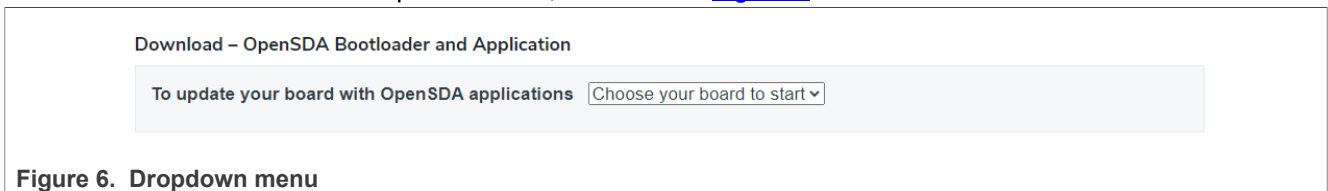

Figure 6. Dropdown menu
2. Select the board from the dropdown menu, as shown in Figure 6.